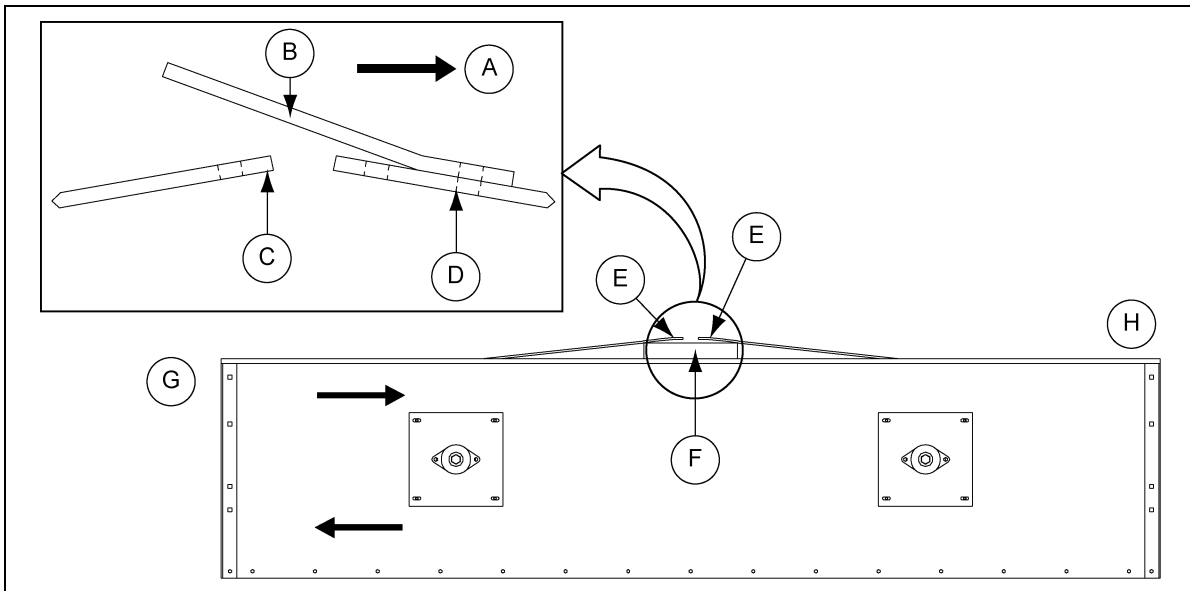
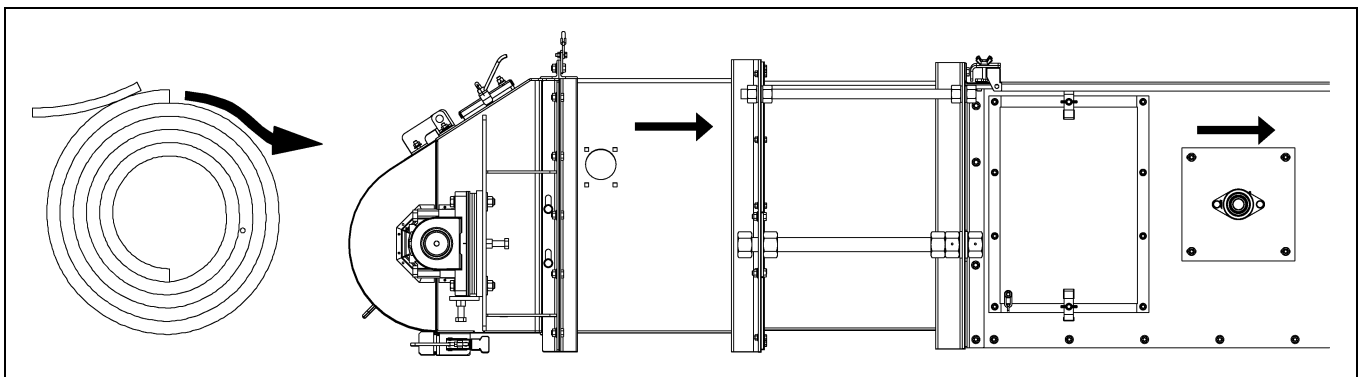

Figure 6D Intermediate Section with Covers Removed
Figure 6E Detail Installation of Belting into Conveyor
1. Hand thread the belt through the conveyor with the tail section in a retracted position. Attach a tightening device to each end of the belt to prevent damage to the belt. Place a 50 mm x 300 mm piece of wood width wise on top of an intermediate section where the belt ends are to be brought together. Bring the belt seam together over the 50 mm x 300 mm piece of wood for a working surface to be used for splicing. (See Figure 6D and Figure 6E.) The belt splice can now be installed following step-by-step directions on Pages 31-34.
IMPORTANT: Install belting into tail end. Note the direction of the flippers on belt. Flippers are installed to aid in cleanout of tail shroud. (See Figure 6E.)